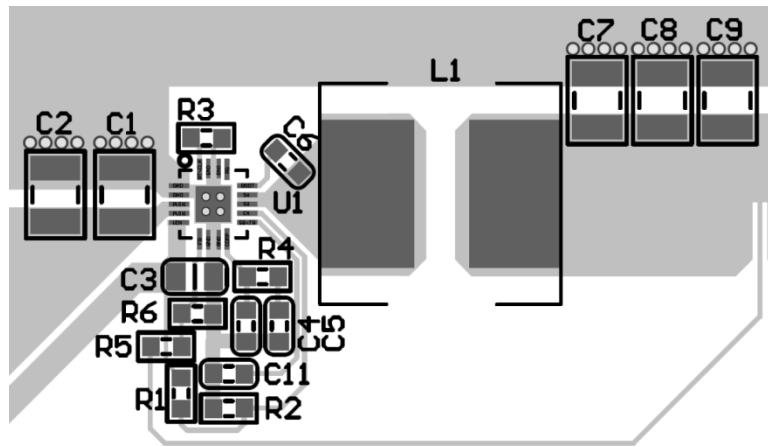

Figure 15. PCB Layout
- Layout is a critical portion of good power supply design. See Figure 15 for a PCB layout example.